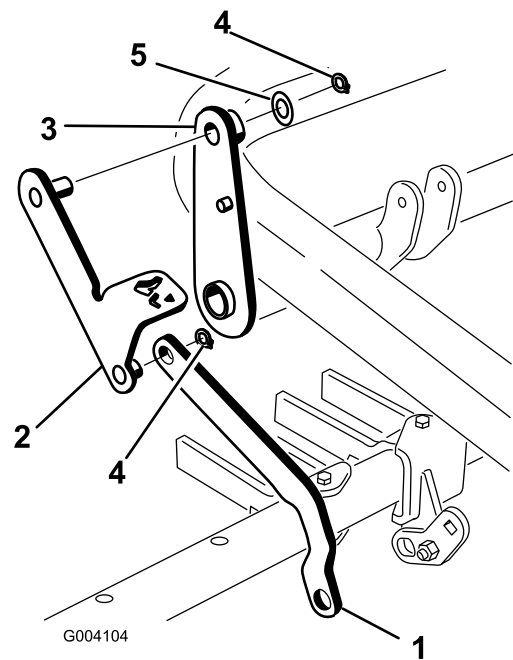

Figure 15
- Install the post on the other end of the pedal lever assembly through the top of the lever assembly, and secure it using a washer (7/8 inch) and a retaining ring (Figure 15).
- Slide the end of the toolbar link over the short post on the pedal lever assembly, and secure it with a retaining ring (Figure 15).